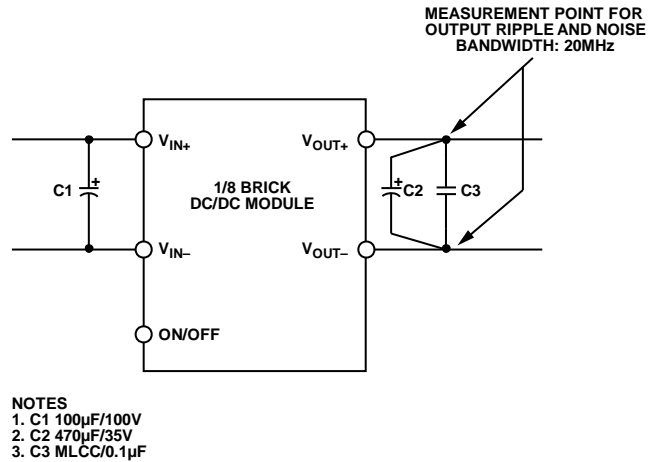

Figure 6. Ripple Test Configuration
- See Figure 6 for test setup.